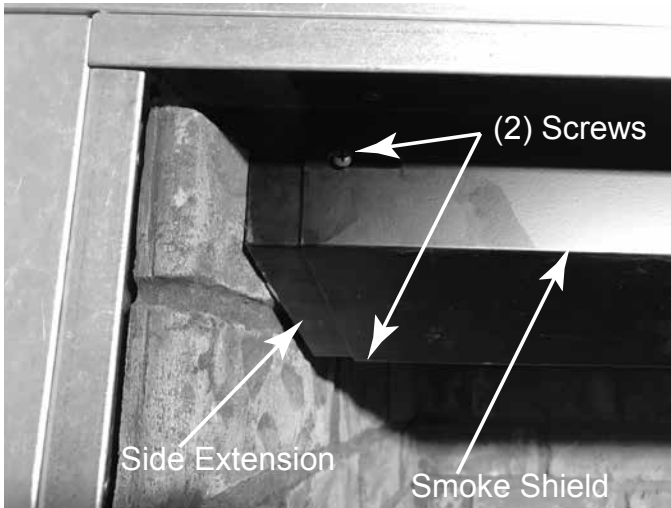

Figure 11.6
- Reinstalling the smoke shield: loosen screws securing the smoke shield side extensions, (2) screws per side, and adjust extensions inward on the smoke shield. Reinstall smoke shield to appliance, (5) screws. Adjust smoke shield side extensions towards the outside of the appliance until they are tight against the left and right side refractories. Tighten (2) screws per side to lock side extensions in place. See Figure 11.6.